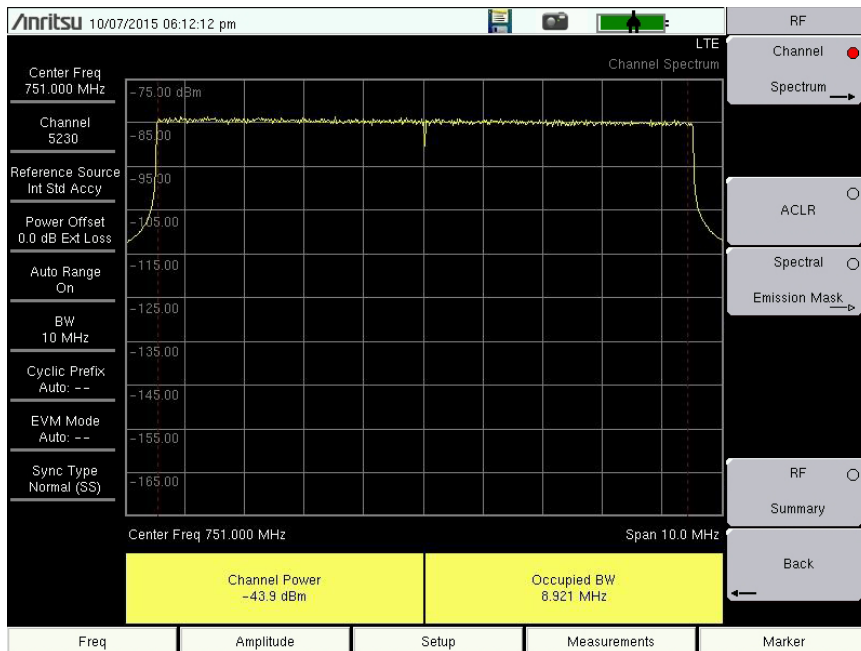

Figure 5-2. Channel Spectrum
3. Press the Channel Spectrum submenu key to activate this RF measurement view (Figure 5-2).